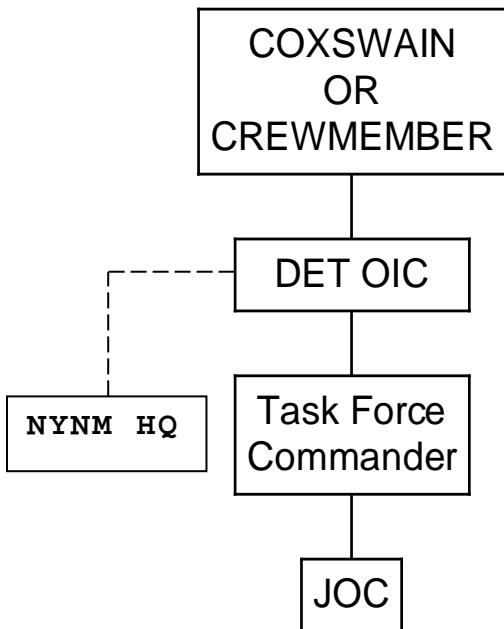
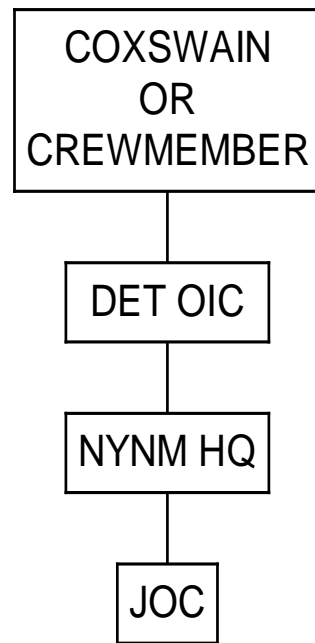

Figure 10-1
Figure 10-2
b. Accidents / Incidents: Notifications in the event of accidents / incidents will be made in accordance with the following flow charts. If the event occurs during an operational mission, see Figure 10-1. If the event occurs during training, see Figure 10-2. For each event the standard JOC Incident/Accident form will be submitted following the verbal notifications.